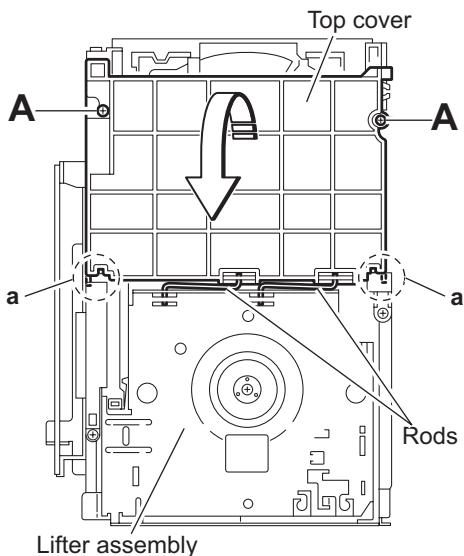

Fig.1
#### 3.2.1 Removing the tray assemblies (See Figs.1 to 5)
- (1) Remove the two screws A from the top cover and release the two joints a on the both sides of the DVD changer mechanism assembly. (See Figs.1 and 2.)
- (2) Remove the two rods from the top cover and remove the top cover from the lifter assembly. (See Figs.1 and 2.)